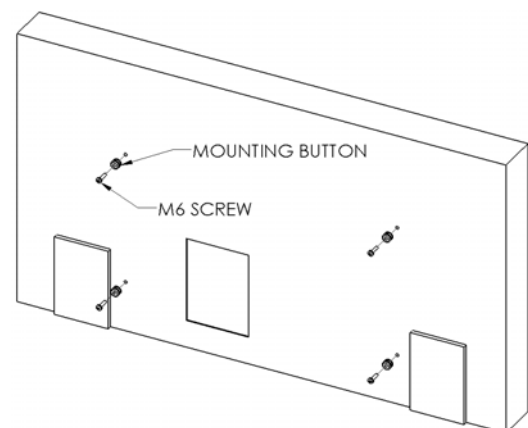

Figure 3
2. Attach mounting buttons to the display using the M6 screws provided (see Figure 3).